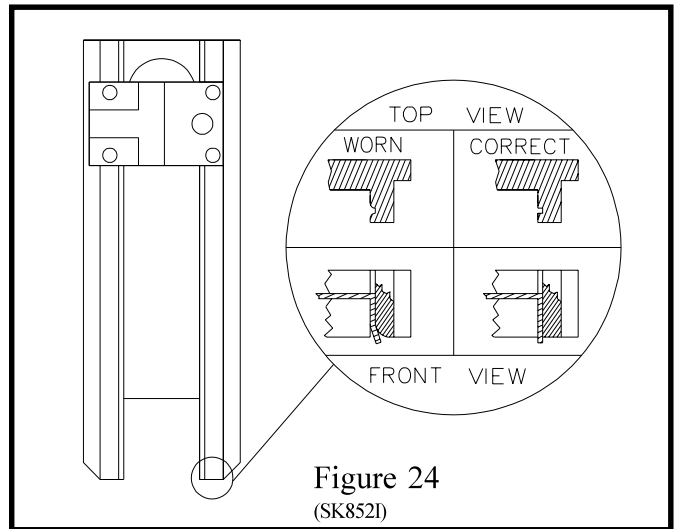
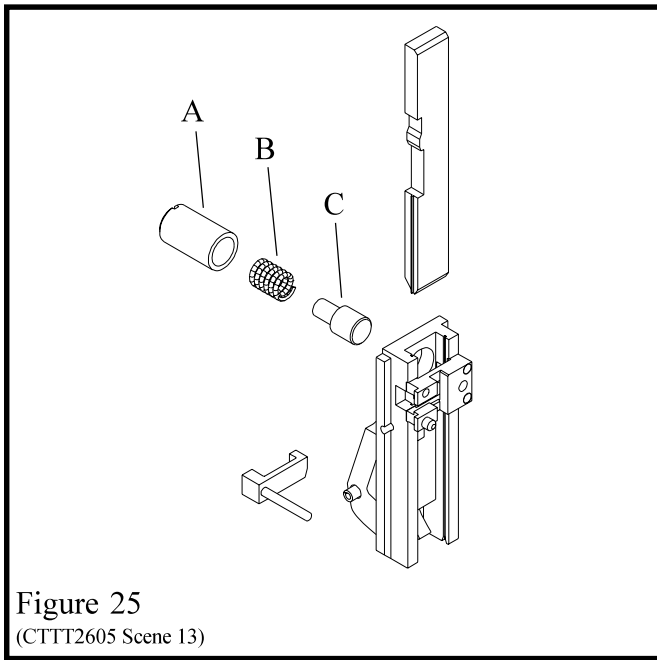

Figure 24
Figure 25
G. Bender Bar (Figure 24)
The bender bar bends the wire over the rotator and forms it into an unclined stitch. The legs of the stitch are guided towards the work material by the bender bar grooves. The legs of the unclined stitch should be perpendicular to the crown. When the bender bar grooves become worn, the legs tend to flare out (Figure 24) as they emerge from the grooves. This causes the legs to strike the clincher improperly. As a result, one or both legs will crumple and a broken driver bar or a broken bender bar can result. If the lower end of the bender bar groove becomes chipped, it will not support the wire and may cause the stitch to break at the crown. Replace the bender bar assembly (See Section H or Fig. 25). Other bender bar functions are related to wire cutting (Section L), and driving (Section I).
H. Bender Bar Friction Plug And/Or Spring (Fig. 25)